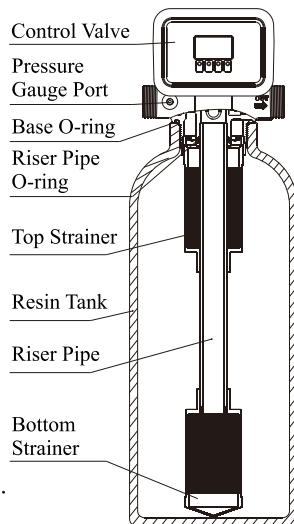

Figure 1-1
- ①The filter or softener should be located close to drain.
- ②Ensure the unit is installed in enough space for operating and maintenance.
- ③Brine tank need to be close to softener.
- ④The unit should be kept away from the heater, and not be exposed outdoor. Sunshine or rain will cause the system damage.
- ⑤Please avoid installing the system in one acid/alkaline, magnetic or strong vibration circumstance, because above factors will cause the system disorder.
- ⑥Do not install the filter or softener, drain pipeline in circumstance which temperature may drop below 5℃, or above 50℃.
- ⑦Install the system in the place where with the minimum loss in case of water leaking.
**C. Pipeline installation (Take 63608 as an example)****①Install control valve**
b. As the Figure 1-1 shows, insert the riser pipe to the bottom strainer, glue the connection part, and put it into the bottom tank, cut off the exceeding pipe out of tank top opening. Plug the riser pipe in case of mineral entering.